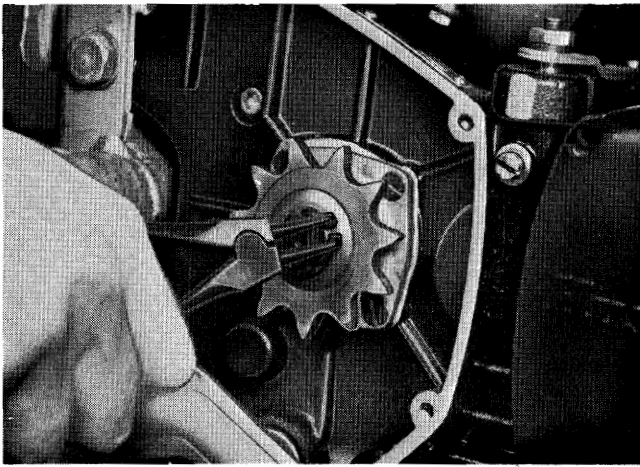

Fig. 32.1
3. Take off the circlip. See fig. 32.1.